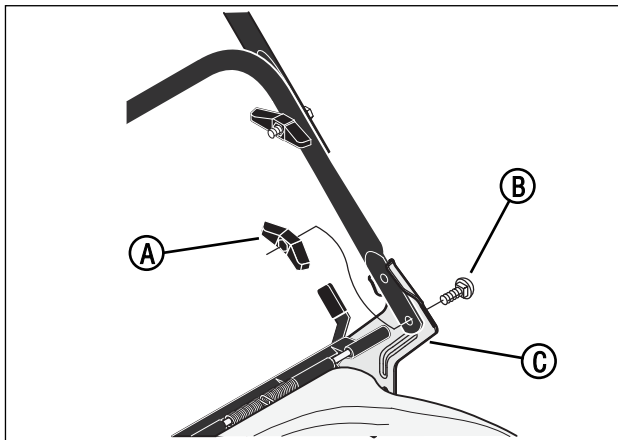

Figure 4: Removing the handle adjustment hardware
1. Remove the wingnuts (A, Figure 4) and bolts (B) from the right and left handle brackets (C).